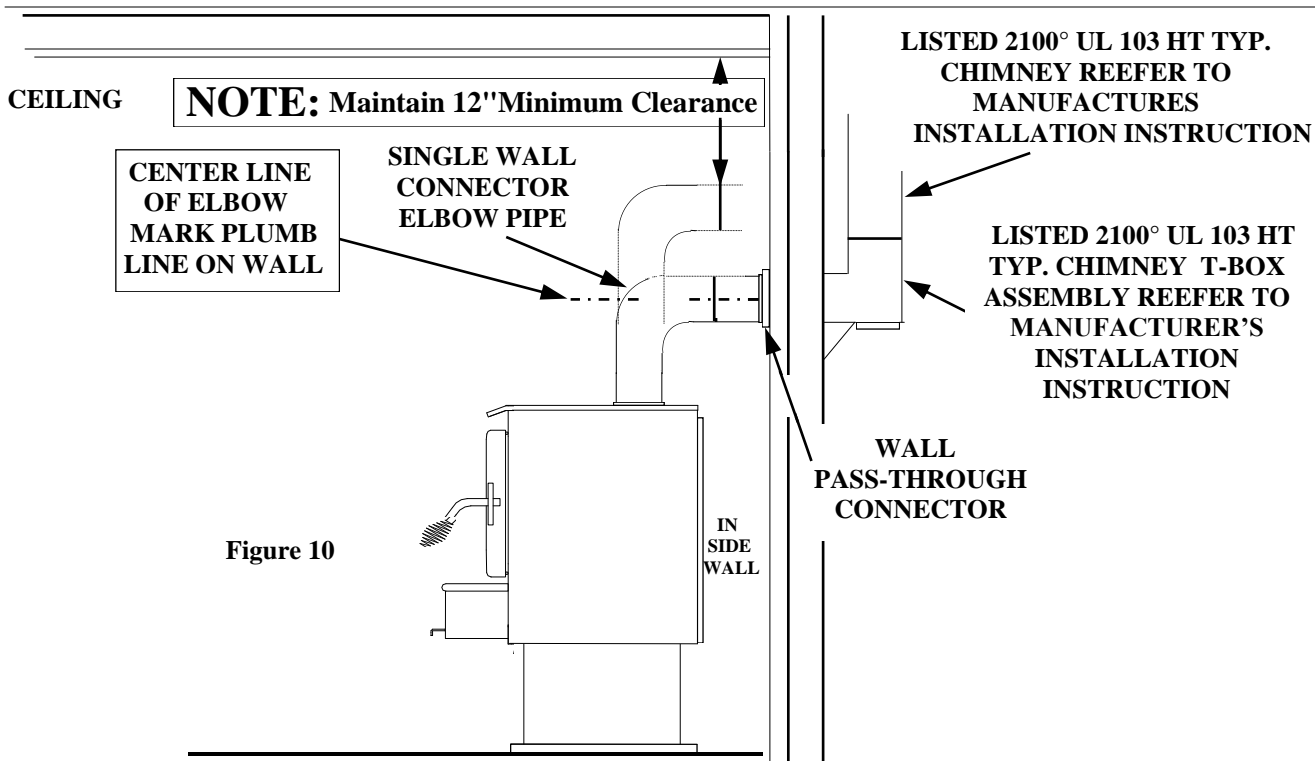

Figure 10
(See Page 18, Figure 10).
3. Measure up so there will be at least 1/4" rise per foot of horizontal connector pipe, maintaining clearances to ceiling as noted in (Page 18,Figure 10). This will give you center of hole for the chimney penetration.
5. Connect chimney collar to tee-box using 6" Single Wall minimum 24 ga. blued or black pipe. (DO NOT USE GALVANIZED PIPE). Connect each section so crimped end faces downward and secure each section to each other using three (3) sheet metal screws or rivets. Single wall pipe is to be connected with three (3) sheet metal screws rivets to connector collar on heater. (See Page 18, Figure 10).